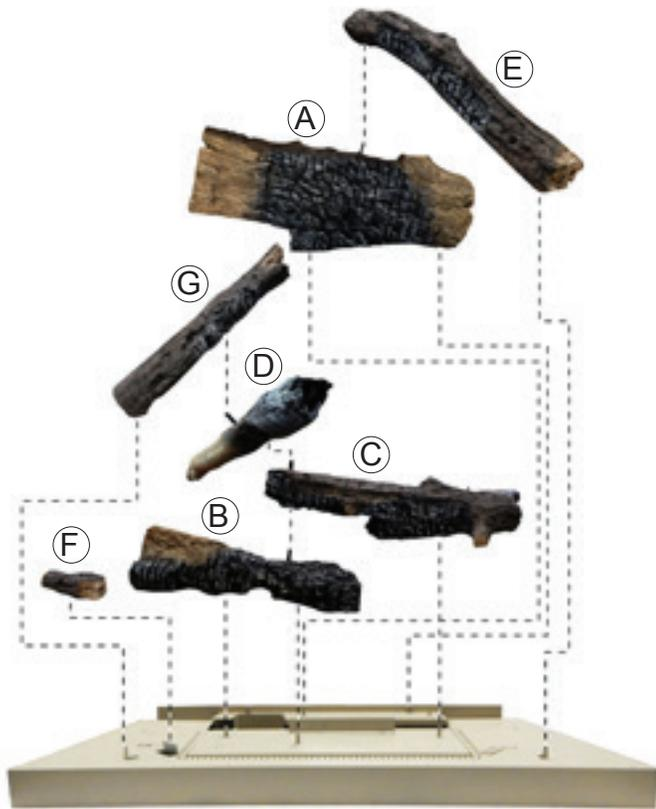

Figure 1 - LS(3236,42)FF
4. Place logs in position as shown in Figure 1 and the following pages. DO NOT force holes into the logs. Install using the holes located in each log.
NOTICE: Log Index Letter (G) only used on LS42. See Figure 1.